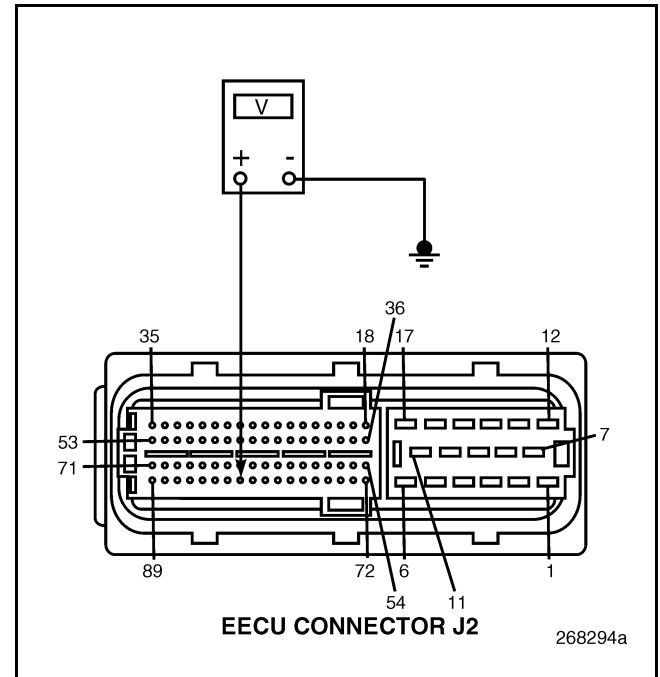

Figure 283
4. Measure the voltage between EECU connector J2 pin 82 and a good ground (see Figure 283).